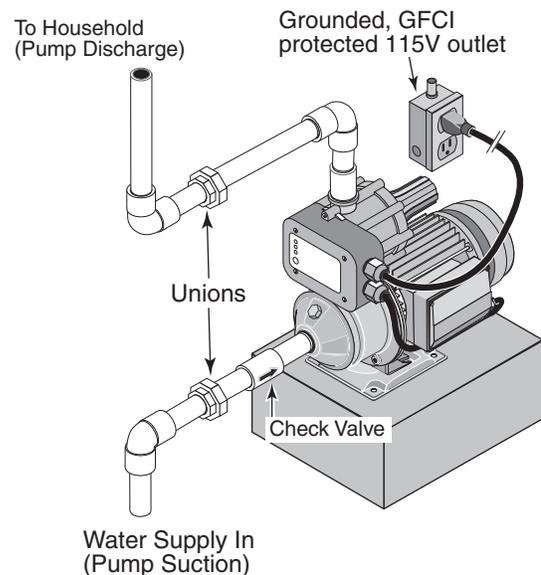

Figure 2: Typical household booster installation. Purchase plumbing fittings separately. Consult code for relief valve/pressure regulator requirements.
9. Install piping from elbows to pump including a union in each line, an elbow in the discharge line, and a check valve in the pump suction line. The arrow on the check valve must point to the pump suction (see Figure 2). If not already in the plumbing system, install a pressure relief valve in the pump discharge line capable of passing the full pump flow at 100 psi (689 kPa). If local code requires installation of a pressure relief valve capable of handling the full pump flow at a pressure less than 100 psi (689 kPa), follow the code requirements. A low pressure safety cutoff switch should also be installed in the discharge line, and may be required by your local codes.
▲ WARNING Hazardous voltage. Risk of dangerous or fatal electric shock. Plug the pump into a 115 Volt, 60 Cycle, Ground Fault Circuit Interrupter (GFCI) protected grounded outlet only. The pump is equipped with a 3-wire grounded cord and plug. Do not modify or remove the plug. Make sure the outlet meets the National Electric Code or the Canadian Electrical Code, as applicable. To avoid dangerous electrical shock hazard, keep the cord dry at all times. See Figure 2.